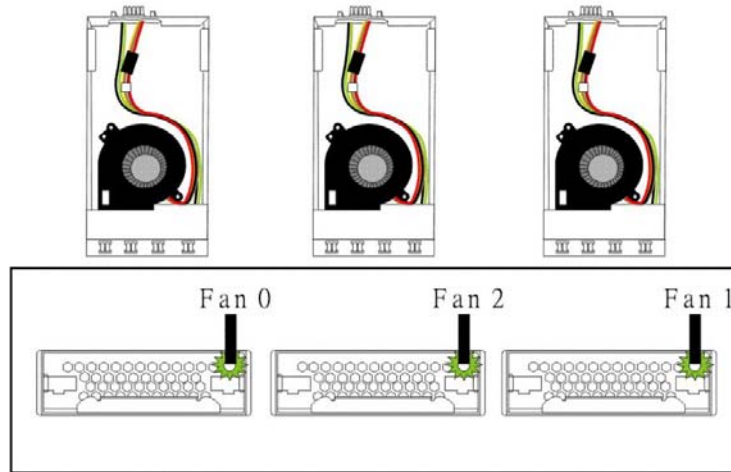

Figure 4-8: A12S Cooling Module LEDs and Cooling Fan Locations
Each cooling module has one (1) red LEDs located on the PSU module. Each LED corresponds to an individual cooling fan. (See **Figure 4-8**) Please refer to the cooling module LED definitions shown in **Table 4-9**.